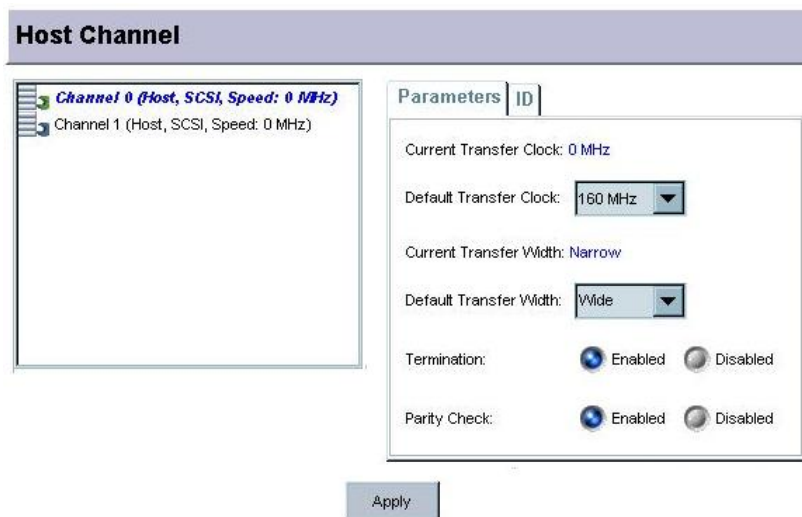

Figure 8-3: Selecting a Host Channel: SCSI Host
Once the channel has been selected, the screen shown in *Figure 8-3* will appear in the content window. The different options are discussed below.
*A SCSI host channel is shown in Figure 8-3.*